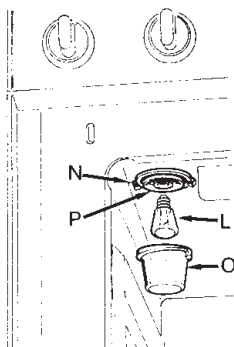

Fig.22
- replace the cap, fitting the notches in the tangs N, and screw down (See Fig.22).